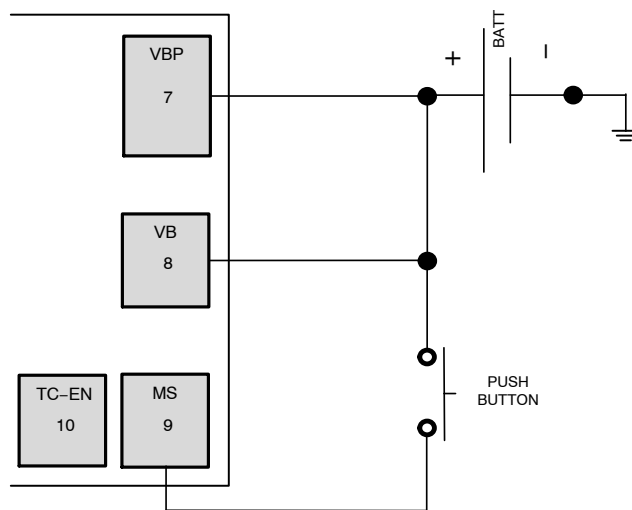

Figure 28. Wiring a Momentary Push Button for Mode Selection
- Figure 28 shows how to connect a momentary push button to switch between the three operating modes.